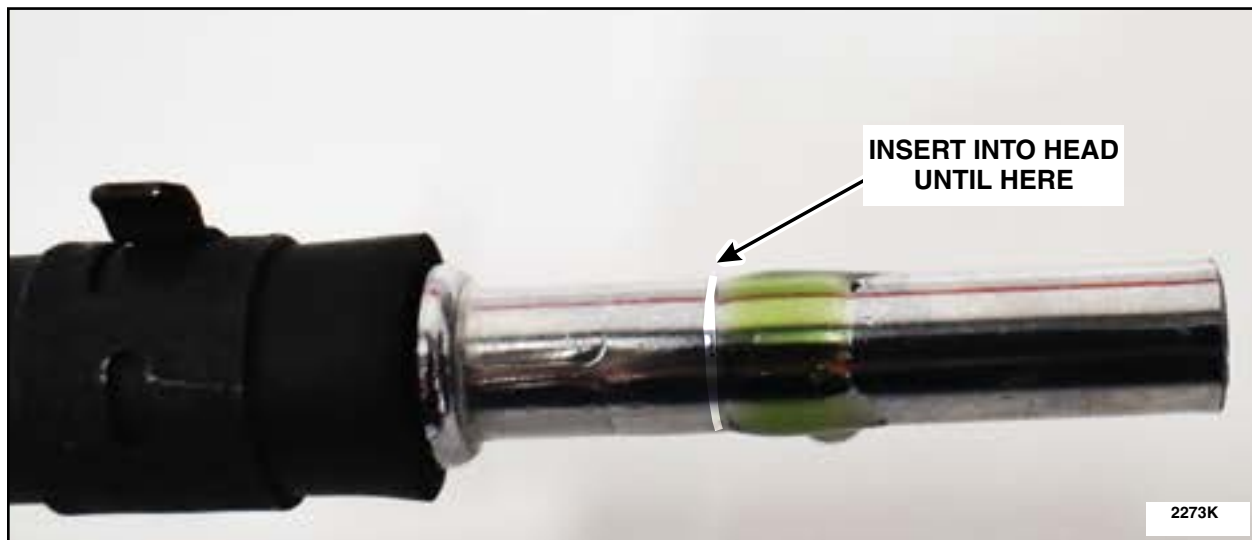

FIGURE 14
28. Apply Loctite® 638™ to the metal tube, in the area shown in Figure 14.
NOTE: When applying the Loctite® 638™, ensure that a full bead of the Loctite® 638™ is applied to the circumference of the metal tube in the area shown in Figure 14.